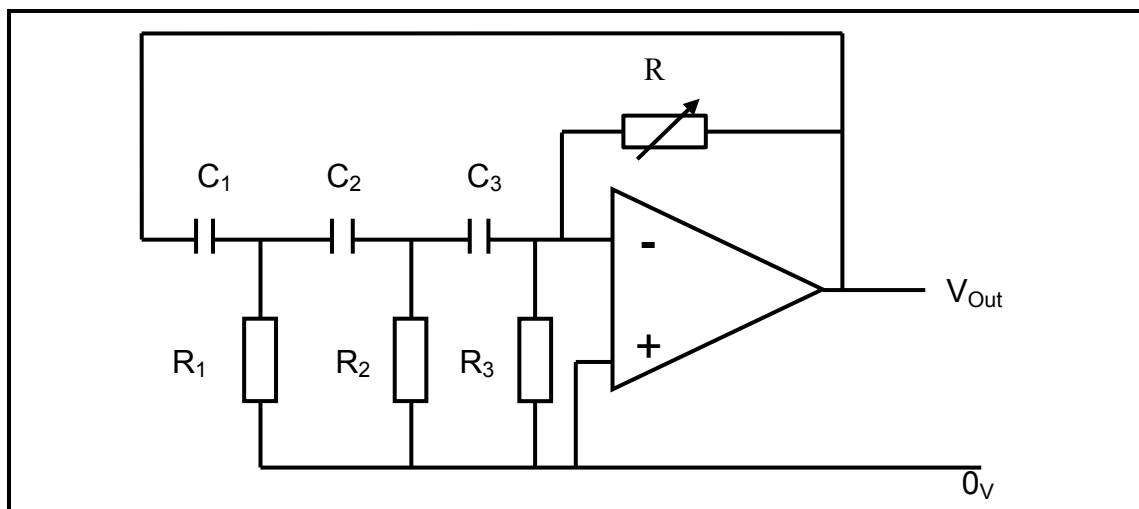

FIGURE 7.5: RC PHASE-SHIFT OSCILLATOR (3)
7.12 Calculate the oscillation frequency of the RC phase-shift oscillator in FIGURE 7.5 below.